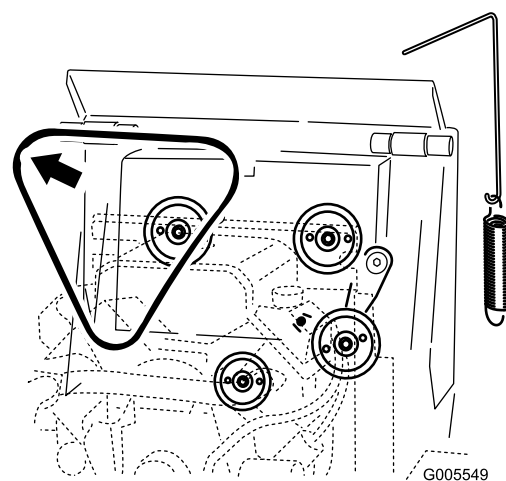

Figure 54
- Remove the belt from the 3 pulleys (Figure 54).